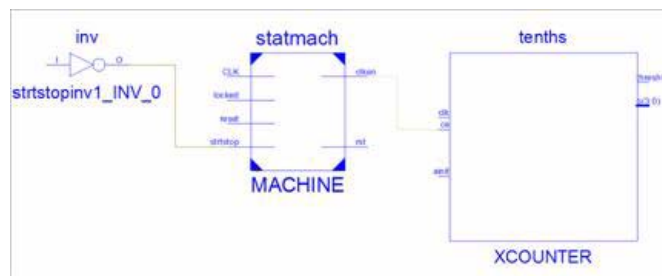

Figure 5-11: Hide Block Contents
2. Select the **MACHINE** block and press the Hide Hierarchical Block icon to hide its entire contents as shown in Figure 5-11.